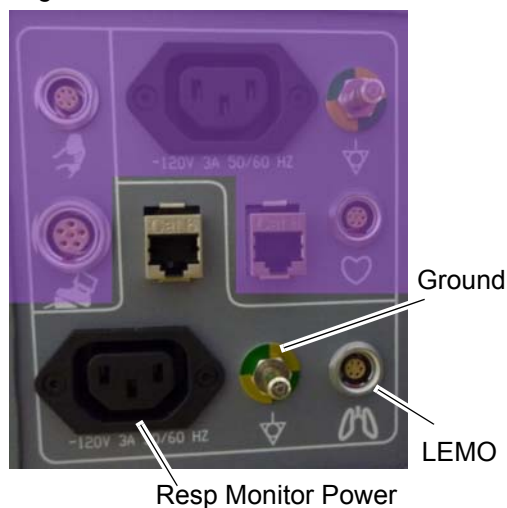

Figure 2-21 Option Interface Panel
- 1.) Power outlet, ground and LEMO connector for the Respiratory Monitor are provided as shown in Figure 2-21.